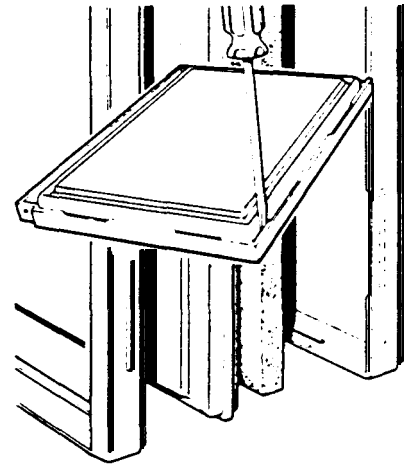

Fig. 26
2. Pry the door front away from the inner pan by means of a screwdriver (fig. 26).